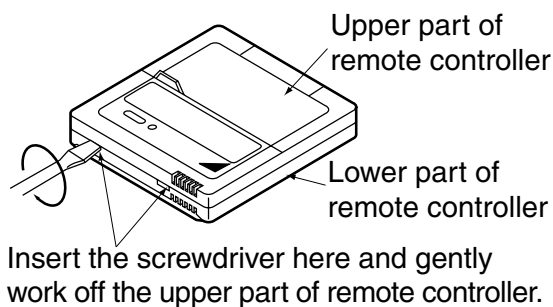

Fig. 20
1. Insert a wedge-head screwdriver into the recess between the upper and lower parts of remote controller and, working from the 2 positions, remove carefully the upper part. (Refer to Fig. 20)